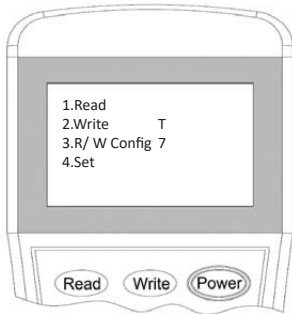

Figure 10
2. Switch-on the programming tool, then press button “3” to enter to **Configuration mode** (Figure 10).